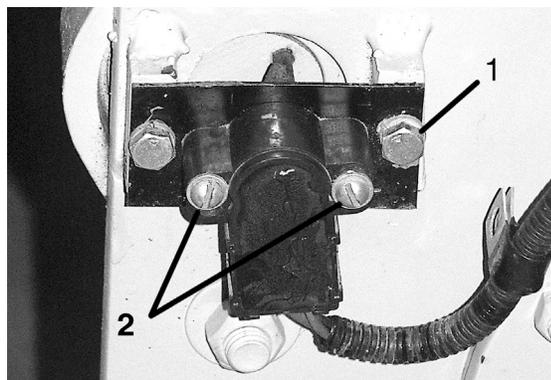

Figure 3
5. Re-calibrate (null/scale) gate calibrations in computer set-up if adjustment made (See Figure 3 for proper adjustment procedure).